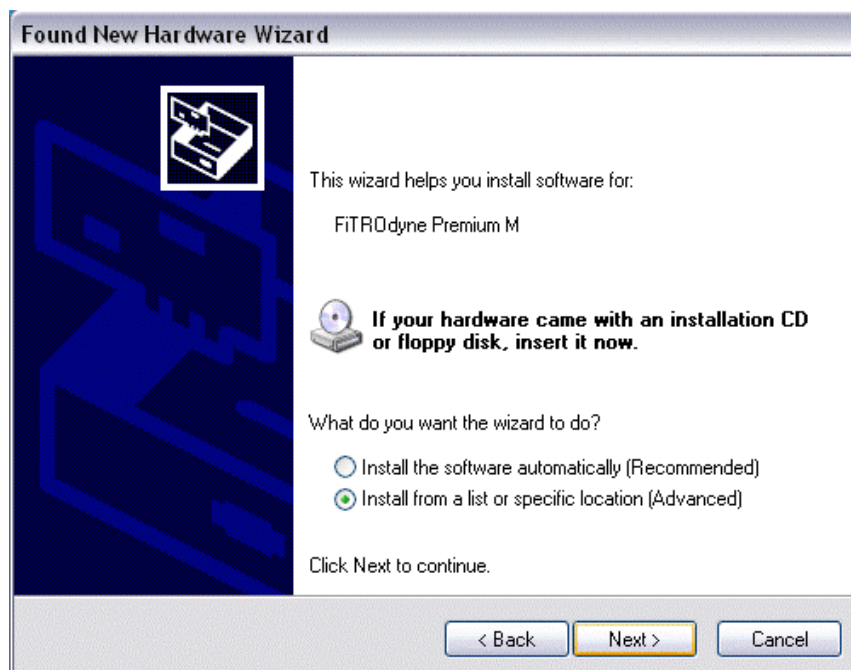

Figure 2
•Select "Install from a list or specific location (Advanced)" as shown in Figure 2 below and then click "Next".